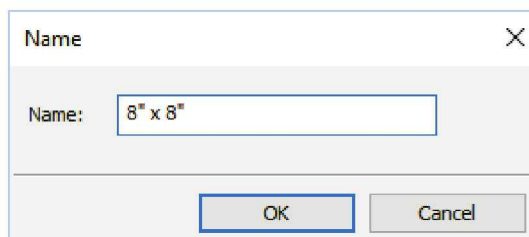

FIGURE 11-4.1 Enter type name
6. Enter **8" x 8"** for the *Type* name (Figure 11-4.1).